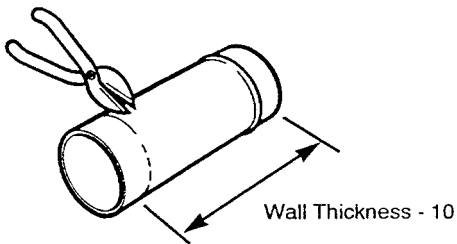

Fig. 63
5. Mark off the dimension, wall thickness - 10mm ( 3/8 in), measuring from the beaded end of the duct and cut off the remaining length of the duct. Ensure that the cut is square and reasonably straight (Fig. 63).